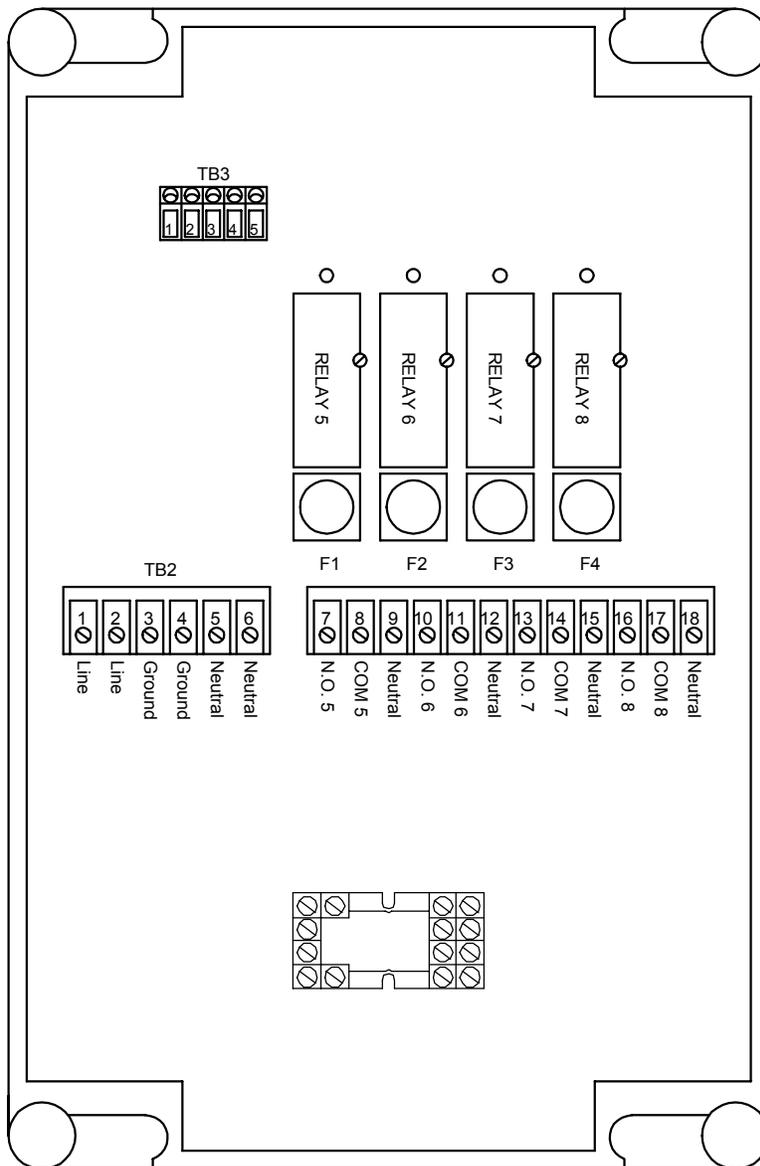

Fig 3.7
- Locate Terminal labeled “TB2” (Fig 3.7, Page 3-8).
| Terminal (TB3) Figure 3.7 | Description | Comments (Fig 3.6) |
| Terminal (TB2) Figure 3.7 | Description |